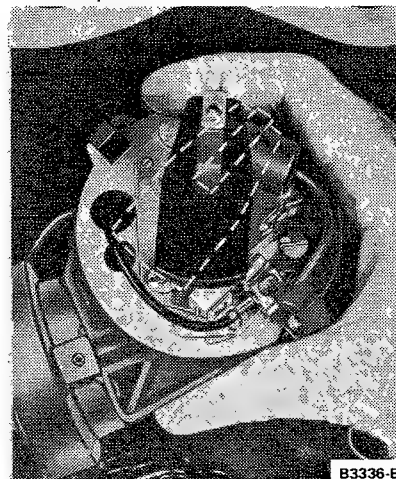

FIG. 13 Installing Distributor
4. With the vacuum advance unit pointing to the rear of the engine position the rotor to point to No. 2 spark plug (Figure 13).